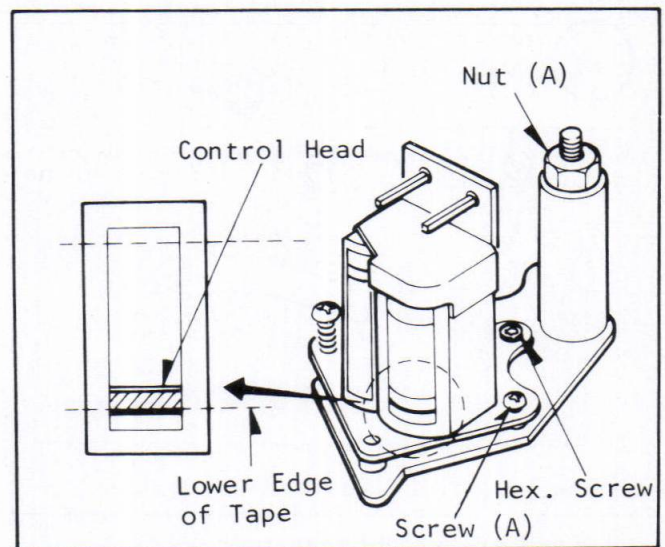

Fig. 42 A/C Head Pre-Adjustment
2. If the waving or frilling is apparent on the lower or top edge of the tape, correct it by turning a hex. screw located on the A/C Head Base. (See Fig. 42.)